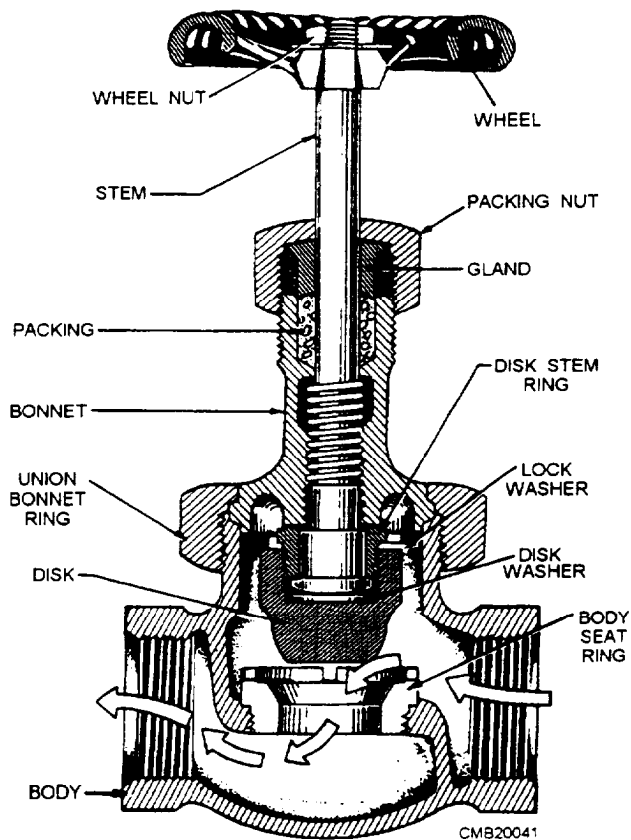
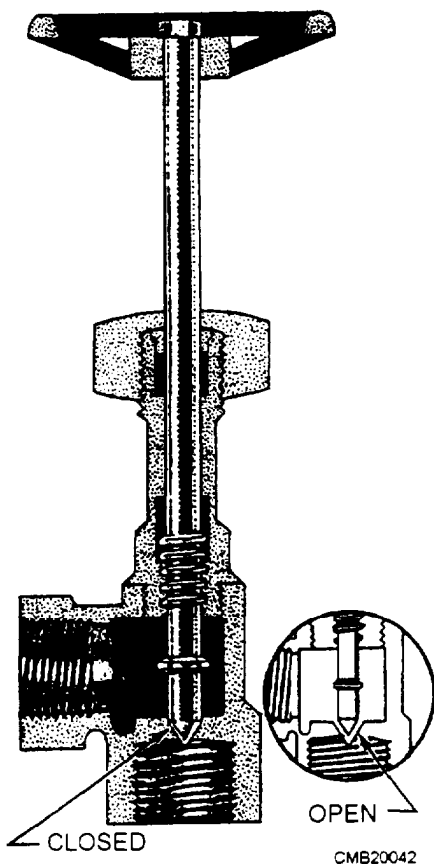

Figure 3-19.—Globe valve.
Figure 3-20.—Cross-sectional view of a needle valve.
**FLOW CONTROL VALVES.**—Flow control valves are used to regulate the flow of fluid in a fluid-power system. Control of flow in fluid-power systems is important because the rate of movement of fluid-powered mechanisms depends on the rate of flow of the pressurized fluid. Some of the most commonly used flow control valves are ball valves (fig. 3-17), gate valves (fig. 3-18), globe valves (fig. 3-19), and needle valves (fig. 3-20).